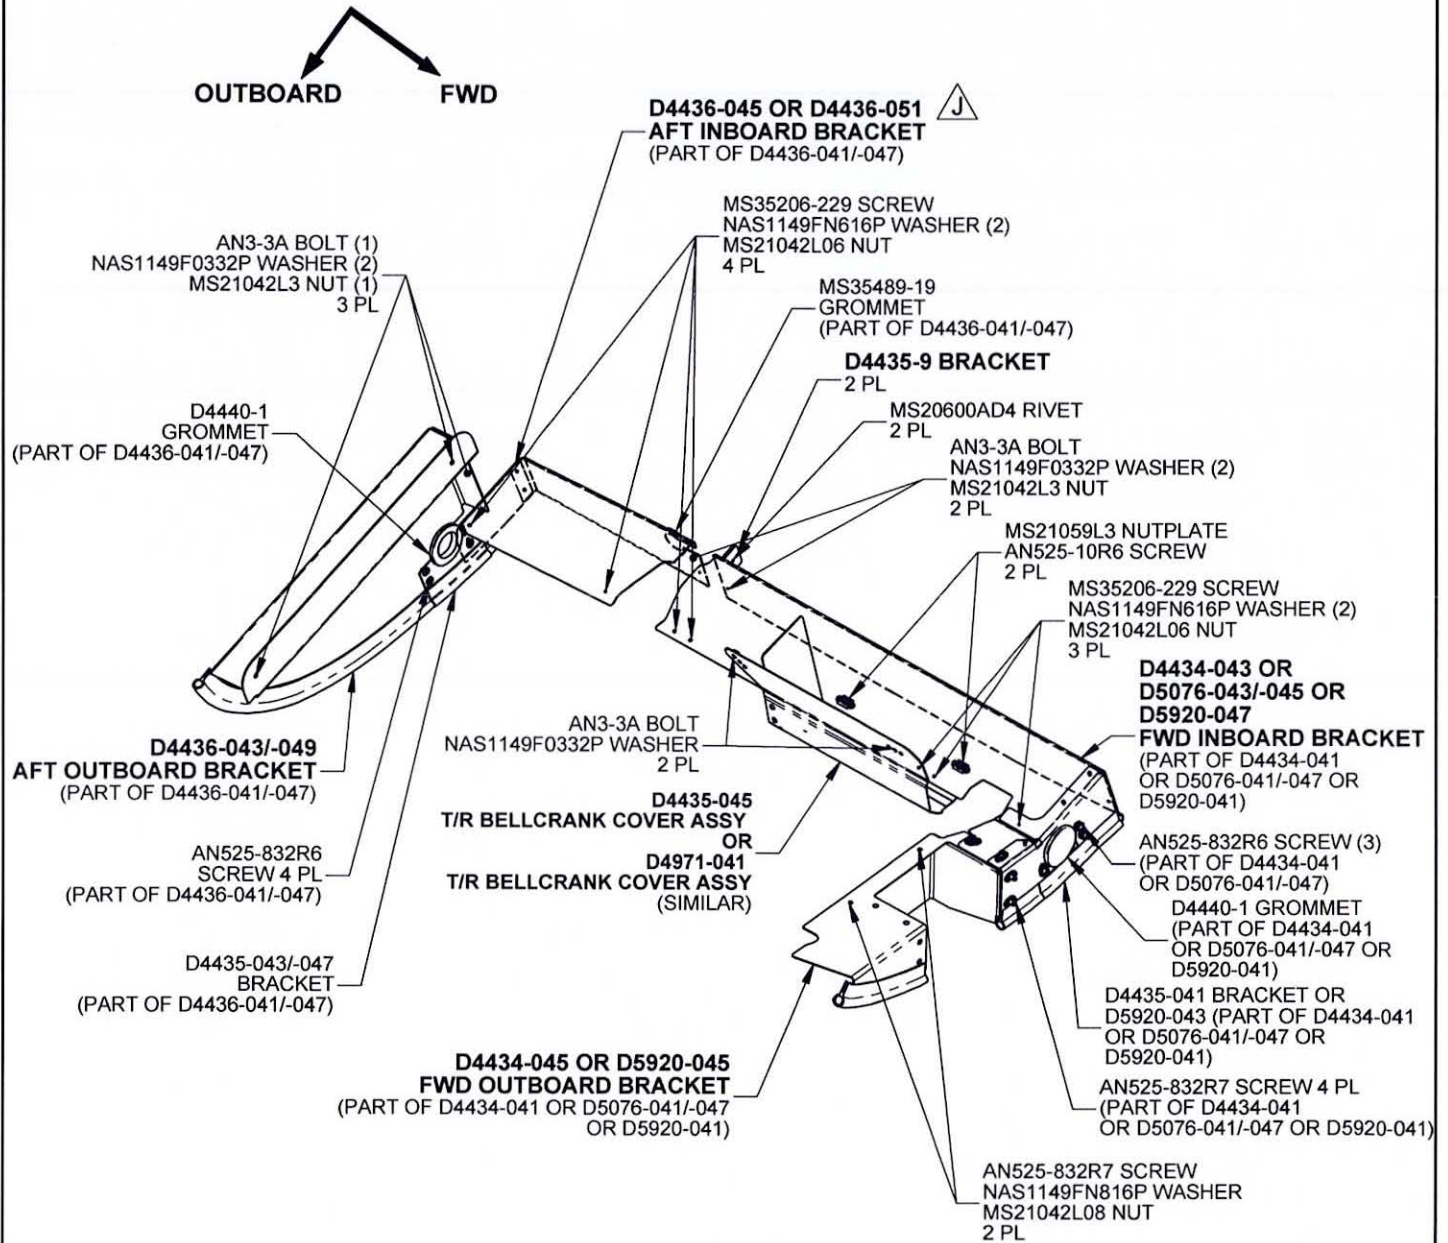

Figure 2. Floor Window Close-out Kit Installation △ J
- Figure 2 shows the general arrangement and installation of the D350-567-141/-143/-145/-147/-149 Close-out Kits. The procedure that follows outlines the step-by-step procedures for installing the kit with reference photos from the initial installation.